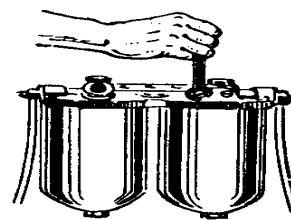

Figure 6
- Loosen the air vent screw (bleeding screw) Figure 6.